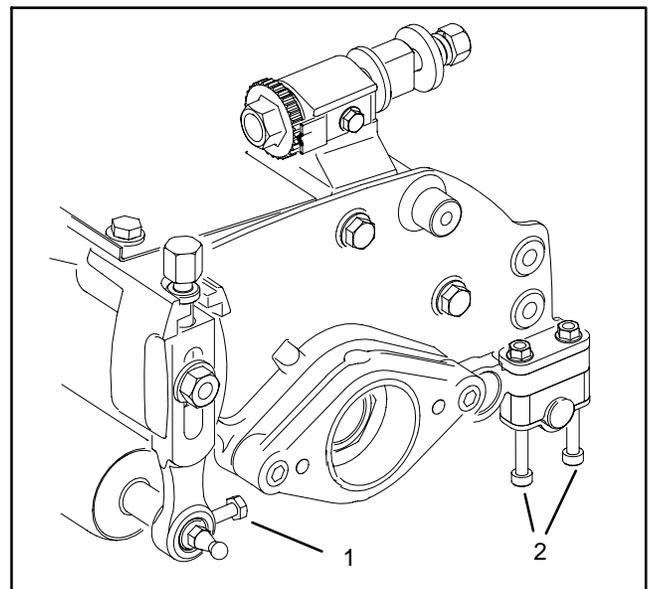

Figure 20
4. Remove the reel bearing lock (8) nut from each end of the reel shaft.
5. Loosen the setscrews securing the front roller to the height of cut arms (Fig. 20). Do not remove the set screws.
6. Loosen the saddle strap screws and flange nuts securing the rear roller to the the side plates (Fig. 20). Do not remove the screws and nuts.
7. Remove the capscrew (24), washer (23) and lock nut (25) securing each end of the grass shield to the side plates. These are the only capscrews that must be removed. The grass shield and the lift hook do not need to be removed.
8. Remove the 2 shoulder bolts (7) securing the right hand side plate to the cutting unit frame. Remove the side plate from the reel shaft and roller shafts.
9. Remove the 2 shoulder bolts (7) securing the left hand side plate to the cutting unit frame. Remove the side plate from the reel shaft and the roller shafts.